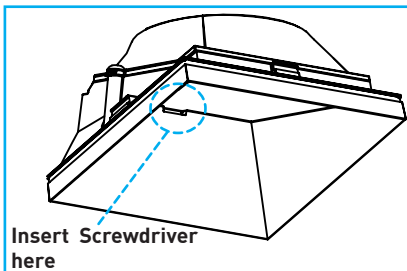

Fig.39
- A. Grasp baffle using soft gloves or with clean soft cloth and remove by pulling down or inserting small flat head screwdriver to wallwash baffles and carefully prying down as shown in *Fig.39*.
1. Grasp baffle using soft gloves or with clean soft cloth and remove by pulling down or inserting small flat head screwdriver to wallwash baffles and carefully prying down as shown in *Fig.39*.